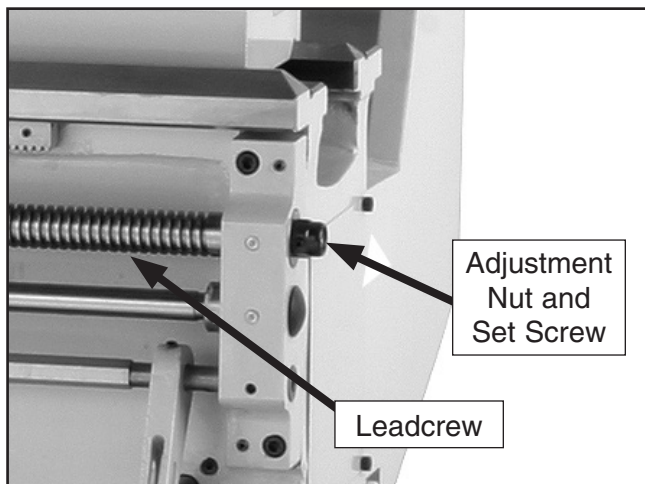

Figure 63. Leadscrew end play adjustment location.
2. Using a 3mm hex wrench, loosen the retainer set screw (**Figure 63**).